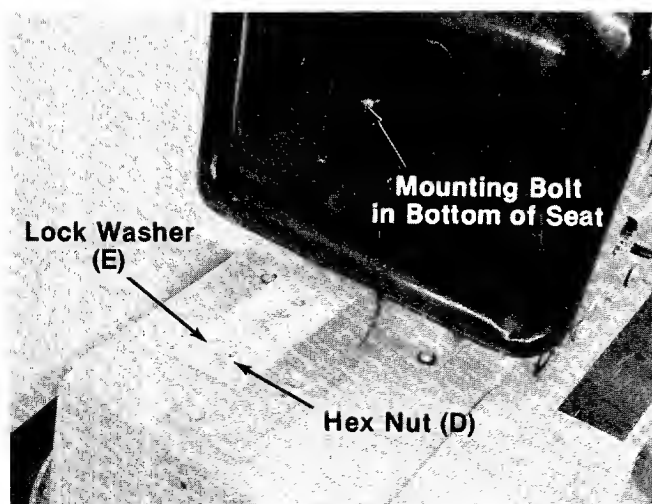

FIGURE 6.
- Secure the seat (O) in position on seat spring with lock washer (E) and hex nut (D). See figure 6.